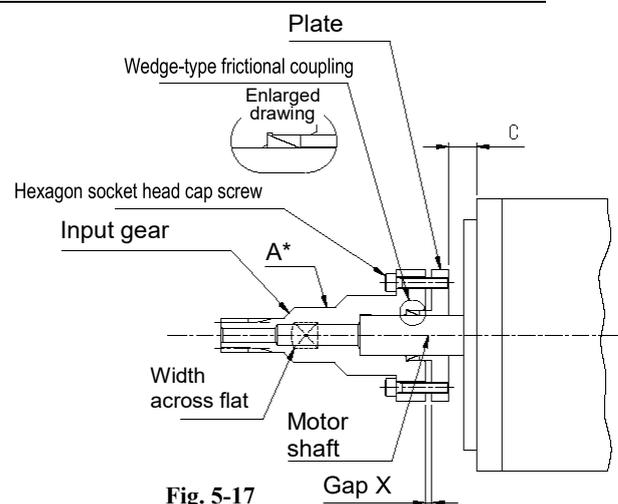

Fig. 5-17
- Step 1** • Assemble the wedge-type frictional coupling into the input gear as shown in Fig. 5-17.